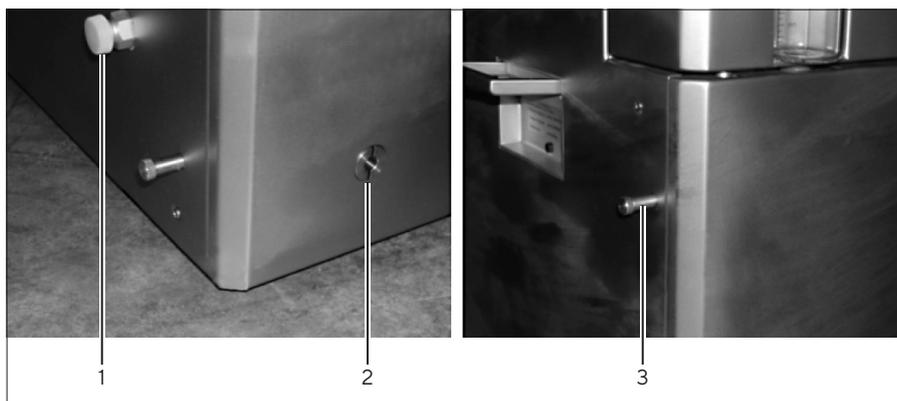

Fig.10: Cryopilot A HTF Drain Valve and Sealing Screws
- ▶ Ensure that the drain valve is closed by turning clockwise to the vertical position and closing the lower sealing screw on the side of the Cryopilot A as shown in Figure 10.